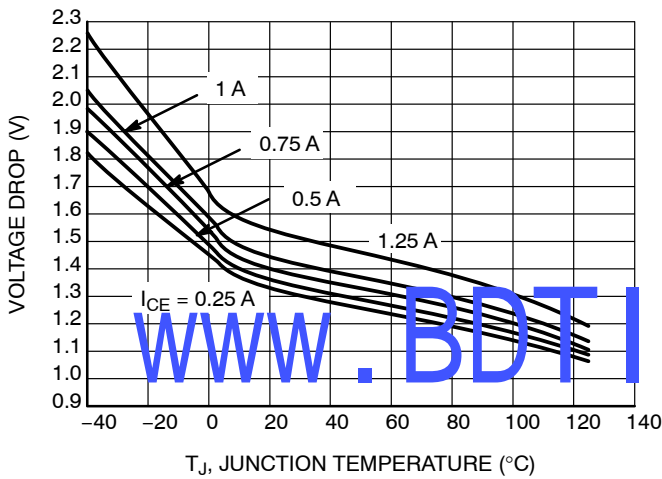

Figure 7. Emitter Follower Configuration Output Darlington Switch Voltage Drop vs. Temperature
- 8.  $V_{SWCE}$  – Darlingon Switch Collector to Emitter Voltage Drop, refer to Figures 7, 5, 8 and 9.